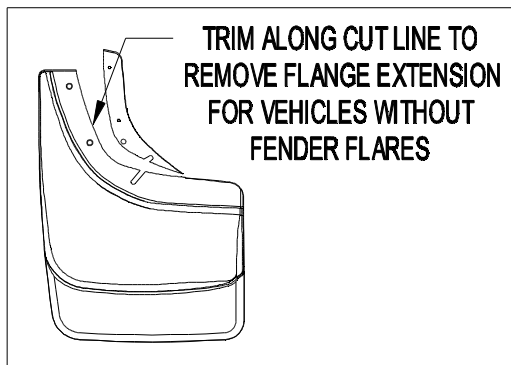

Figure 2
2. Remove mounting flange extension by trimming along cut line (Figure 2) VEHICLES WITHOUT FENDER FLARES ONLY.